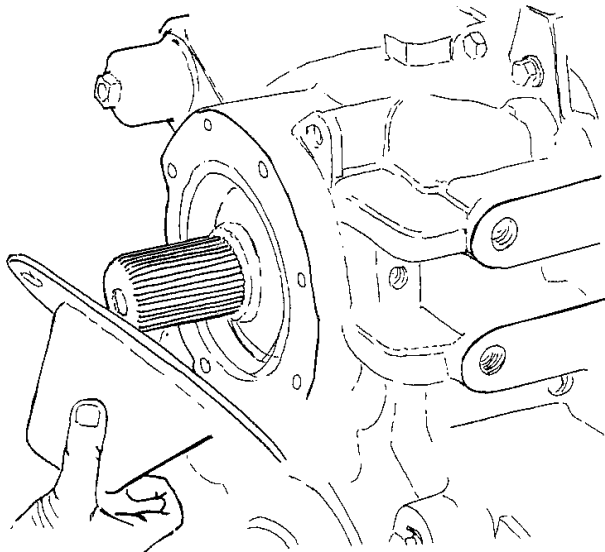

Figure 3 Remove Rear Cover (4208/4210 Models Only)
3. **4208 (Code 13TKC) / 4210 (Code 13TKA) Models Only:** Remove bolts and cover from the transfer case rear cover (Figure 3).